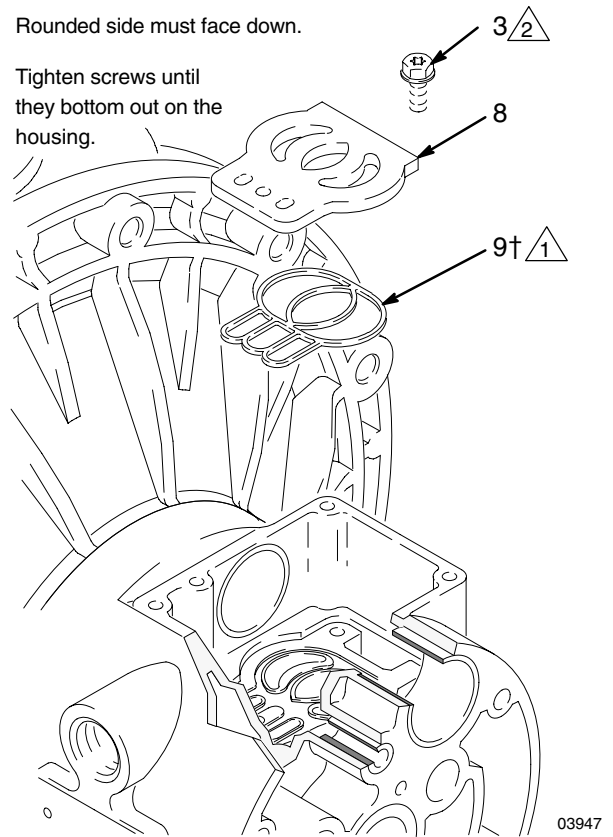

**Fig. 9**
4. Pull the two actuator pistons (11) out of the bearings (12). Remove the u-cup packings (10) from the pistons. Pull the pilot pins (16) out of the bearings (15). Remove the o-rings (17) from the pilot pins. See Fig. 9.
6. Inspect the bearings (12, 15) in place. See Fig. 9. The bearings are tapered and, if damaged, must be removed from the outside. This requires disassembly of the fluid section. See page 22.
4. Install an o-ring (17†) on each pilot pin (16). Grease the pins and o-rings. Insert the pins into the bearings (15), **narrow** end first. See Fig. 9.
5. Install a u-cup packing (10†) on each actuator piston (11), so the lips of the packings face the **narrow** end of the pistons. See Fig. 9.
6. Lubricate the u-cup packings (10†) and actuator pistons (11). Insert the actuator pistons in the bearings (12), **wide** end first. Leave the narrow end of the pistons exposed. See Fig. 9.